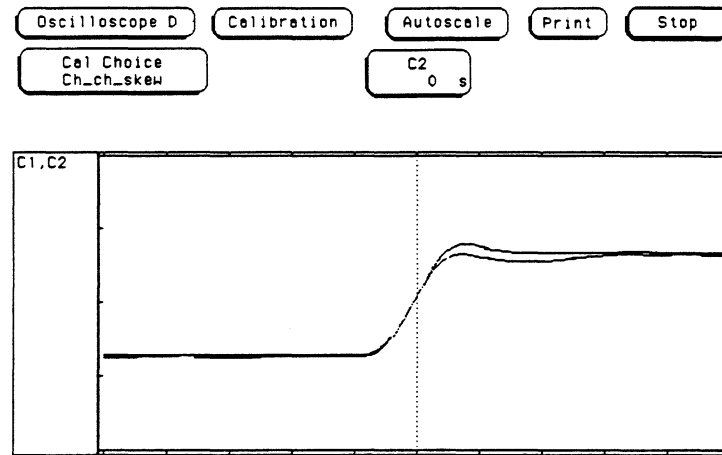

Figure 4-15. Overlayed Waveforms
- u. Rotate knob until both waveforms are overlayed at approximately the 50% point. See figure 4-15.